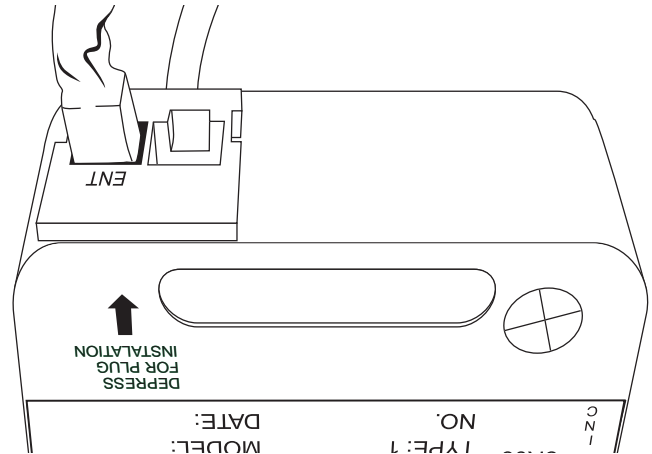

Figure 11
- ① Press the snap connector toward the bottom of the lock.
- ② Carefully insert the entry cable plug into the lock at the “ENT” position, see *Figure 11*.